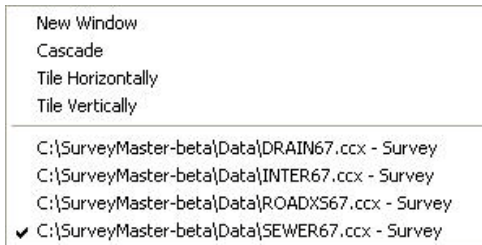

Figure 5-9. Window Menu
- Click on the **Window** menu (Figure 5-9), and select the file you want to view.